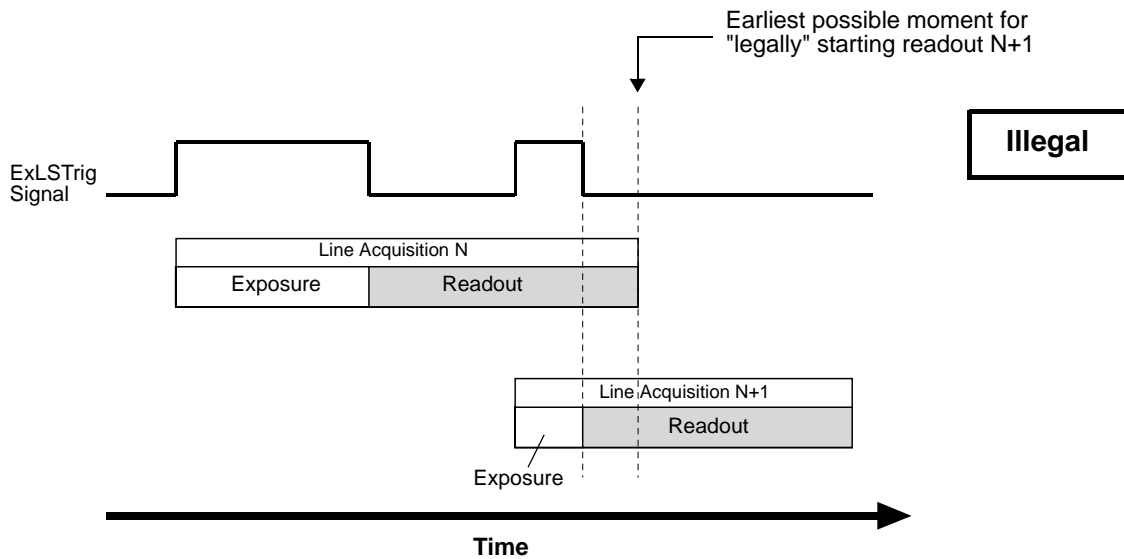
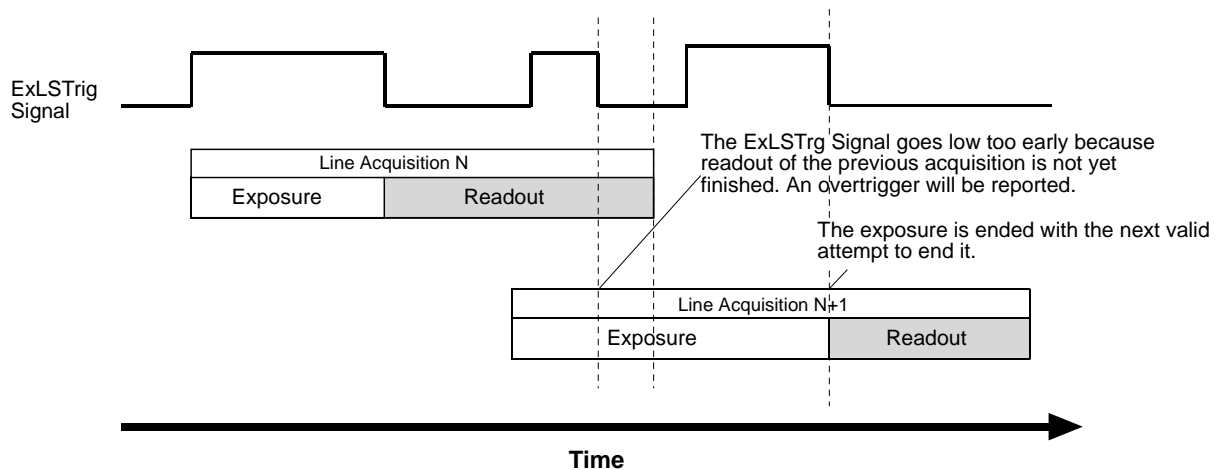

Fig. 21: Exposure N+1 Illegally Ends Before Readout of the Preceding Line Acquisition N Has Ended; Applies to Trigger Width Exposure Mode Only
Fig. 22: Extension of Exposure N+1 After the Illegal Attempt of Ending It Too Early; Applies to Trigger Width Exposure Mode Only
Certain attempts of triggering overlapped line acquisition are illegal and do not result in line acquisitions: When a line start trigger signal attempts an illegal line acquisition the trigger signal will be ignored and, accordingly, no line acquisition will be performed. In addition, the trigger signal will be reported as an overtrigger (see also Section 8.9.2 on page 127). Illegal triggering and impossible overlaps are shown in Fig. 20 on page 76 and Fig. 21 on page 76.
The exposure overhead (see Fig. 20 on page 76) is part of every exposure process. For simplicity, it is omitted from the other figures illustrating exposure and readout (see, for example, Fig. 21 on page 76).
- The line start trigger goes low to end the exposure for line acquisition N+1 before readout for acquisition N has ended (premature exposure end; see Fig. 21 on page 76). This would result in the illegal overlap of two readouts (in trigger width exposure mode only).
When the line start trigger has illegally gone low to end the exposure for line acquisition N+1 before readout for acquisition N has ended (in trigger width exposure mode; see Fig. 21), the camera will behave as shown in Fig. 22: The camera will extend the exposure and end it when the next valid trigger for ending exposure occurs.